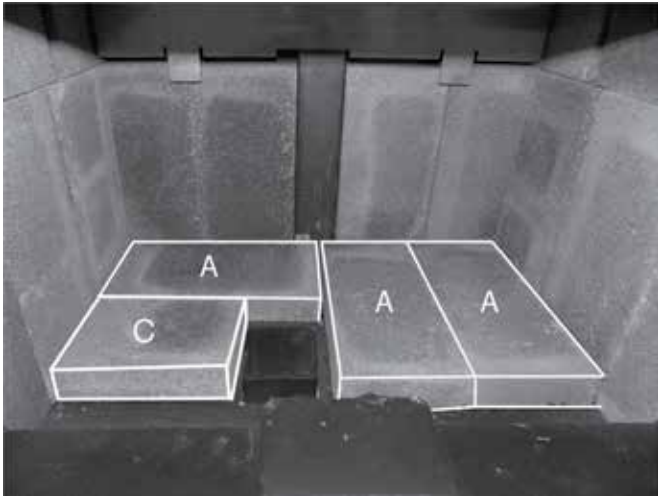

Figure 22: Floor bricks in place.
- Place two "A" firebricks on the firebox floor as shown. Place a third "A" firebrick against the rear wall as shown in (Figure 22).
- Place the "C" firebrick so that it sits beside the ash dump, against the left-hand side wall and the "A" firebrick located directly behind the ash dump (Figure 22).